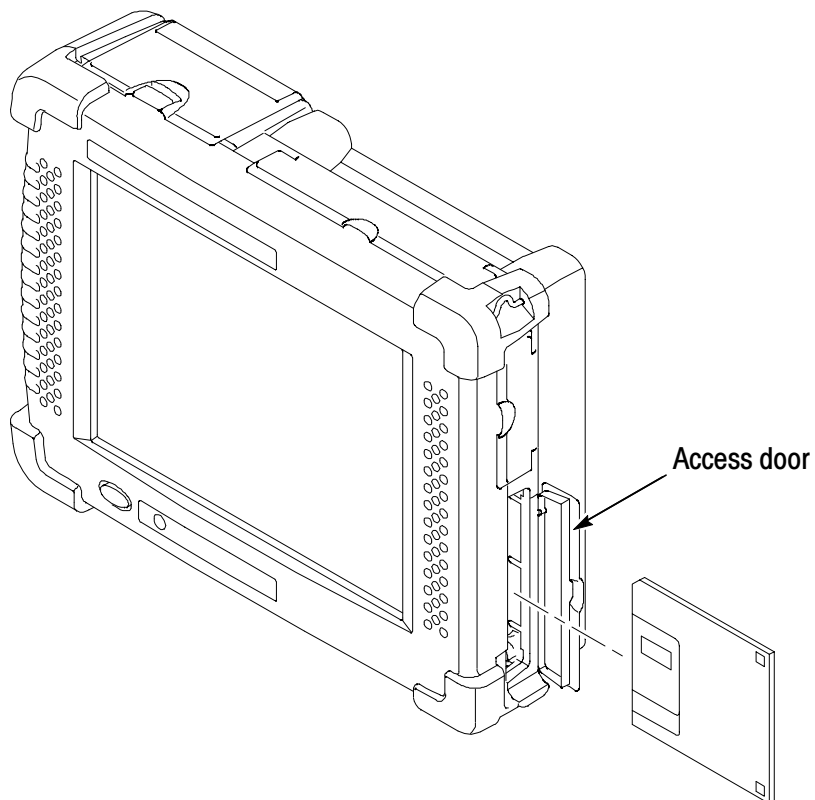

Figure 3-1: Installing a floppy disk
1. Open the access door on the right side of the analyzer. See Figure 3-1.